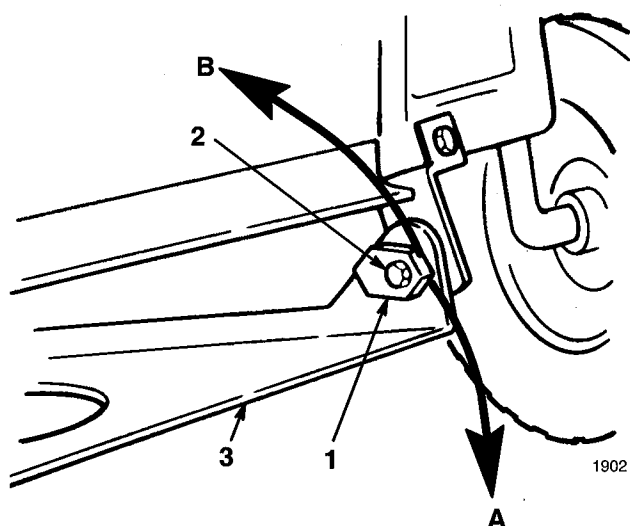

Figure 48
8. Adjust the front-to-rear slope by rotating the special slope adjusting nuts on both sides of the mower pivot mount (Fig. 48).
9. Using a 1" wrench or socket slowly rotate the left side slope adjusting nut down to raise the front of the mower and up to lower it (Fig. 48). Rotate the slope adjusting nut until the front of the mower is 0" to 1/4" (0 mm to 6.5 mm) lower than the rear of the mower.